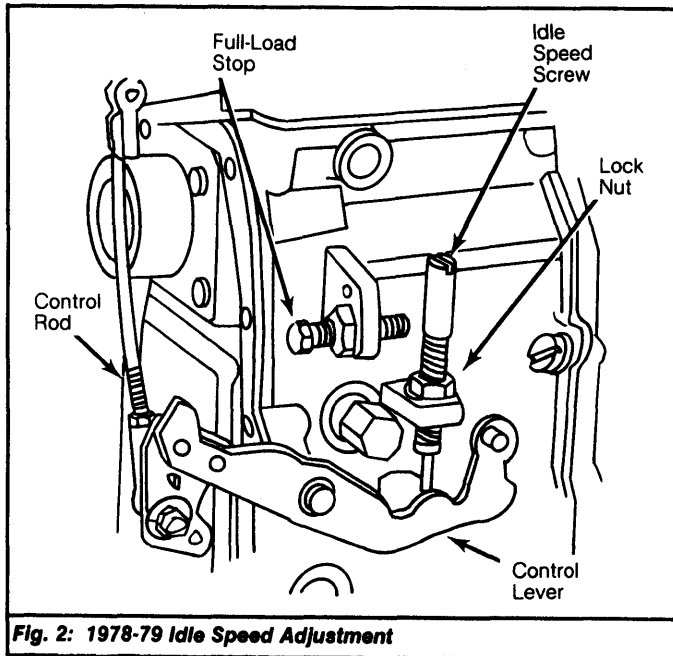

Fig. 2: 1978-79 Idle Speed Adjustment
2) Disconnect control rod from bellcrank on control lever of injection pump. See Fig. 2. Adjust idle speed adjusting screw to obtain specified engine RPM. Reconnect control rod free of tension. Adjust throttle linkage if necessary.